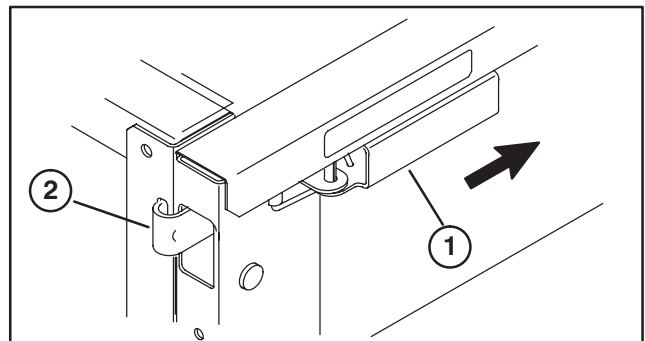

Figure 7
11. Open all latch assemblies and hook ends in slots in front panel and tailgate (Fig. 7). Make sure latch ends are hooked all the way in the slots.